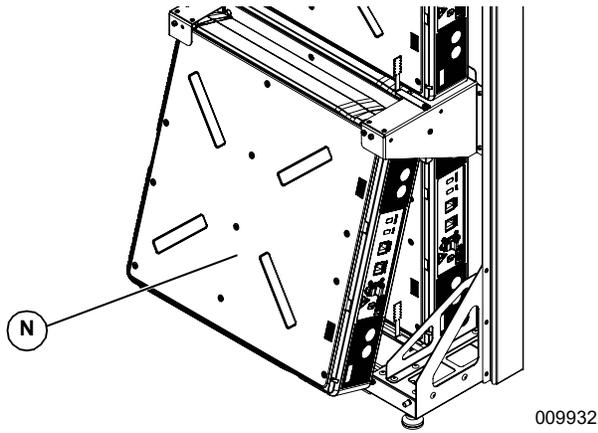

Figure 4-16. Installing Front Battery Modules
See Figure 4-16. Install front battery modules (N) using the same procedure as used on the rear modules. See Figure 4-12. Battery Module / Spacer Order of Installation.